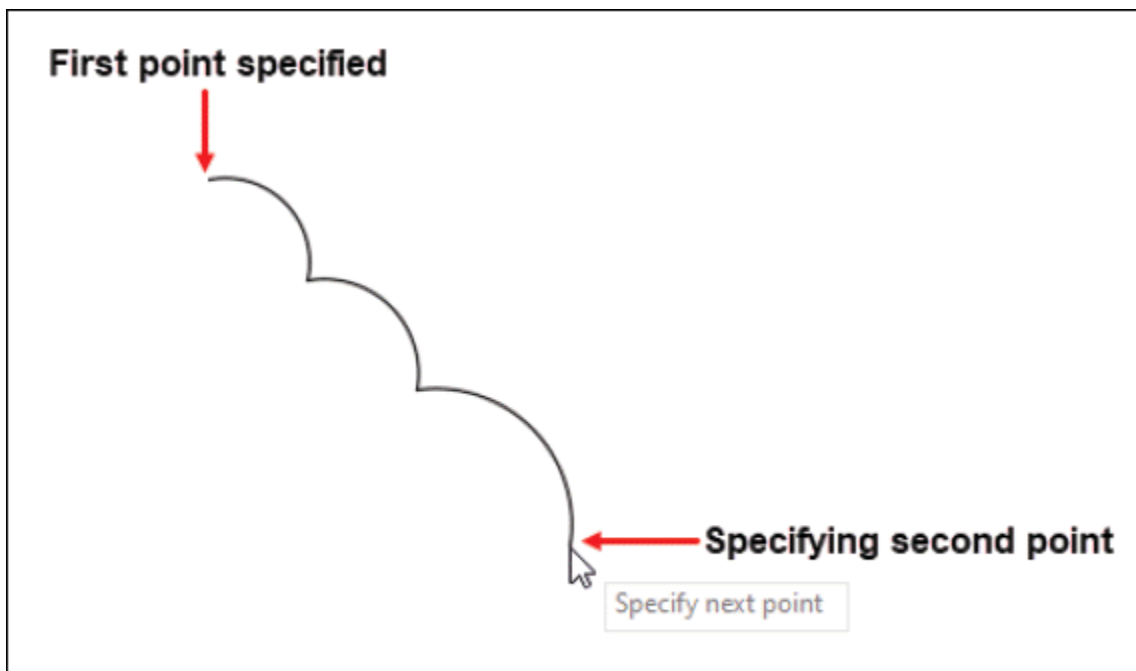

Figure-123. Specifying points of revision cloud
- Move the cursor away and click at desired location to specify the next point of the revision cloud; refer to Figure-123. Optionally, you can specify the more points of the revision cloud.